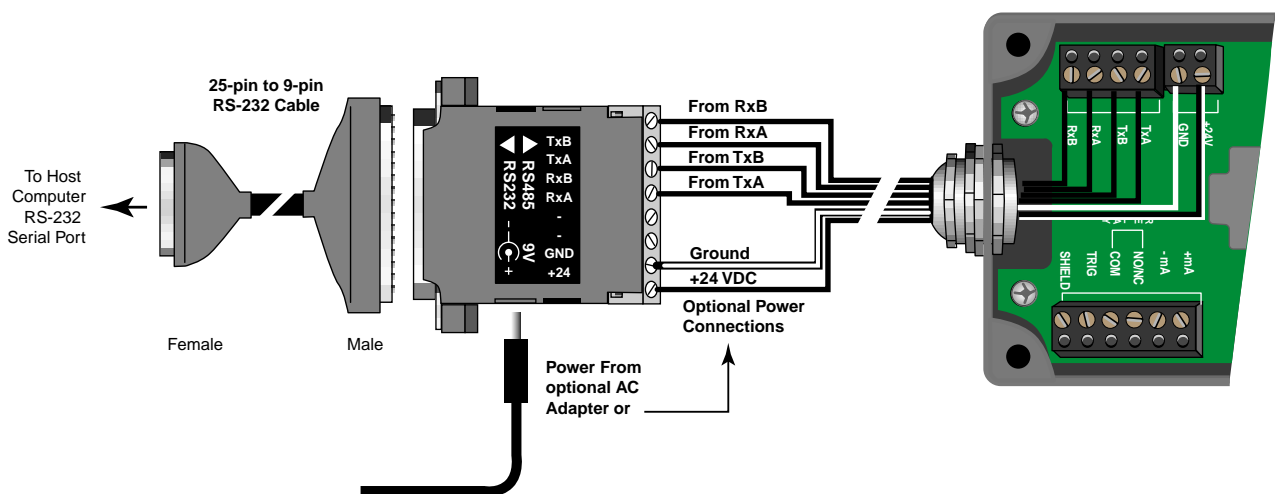

Figure 3-3: Wiring for 4-Wire Sensor Setup
Before mounting the sensors in their permanent location, each one must be initialized with a unique address so communication to and from the sensors and the computer can occur without problems. To set up your computer to initialize the sensors, complete the following steps (use Figure 3-3 as a guide):
2. Insert the appropriate cable into the electronics enclosure's compression fitting (as shown in Figure 3-3).